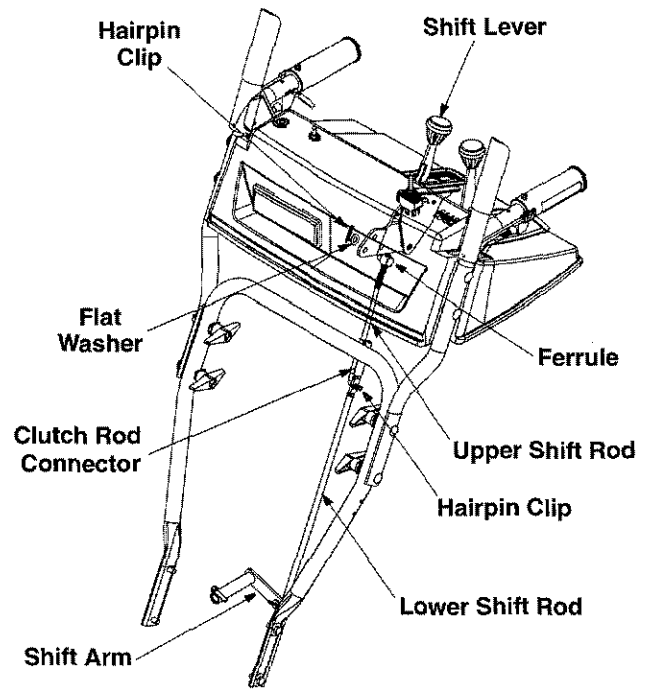

Figure 13
- Remove the hairpin clip and slide the connector up to separate the upper shift rod from the lower shift rod. See Figure 13.